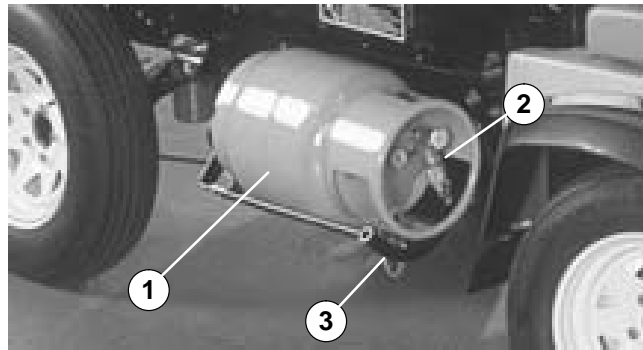

Figure 1
2. Read Precautions for Working on Liquid Propane Gas (LP) Fuel Systems carefully before proceeding further.
3. Remove propane tank (Fig. 1) from vehicle as follows: